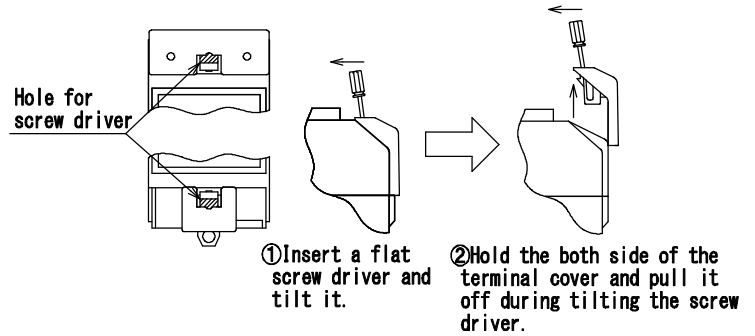

Fig.5 Removing the terminal cover
- b) When the terminal cover is removed, use the tool. (Ref. Fig.5)